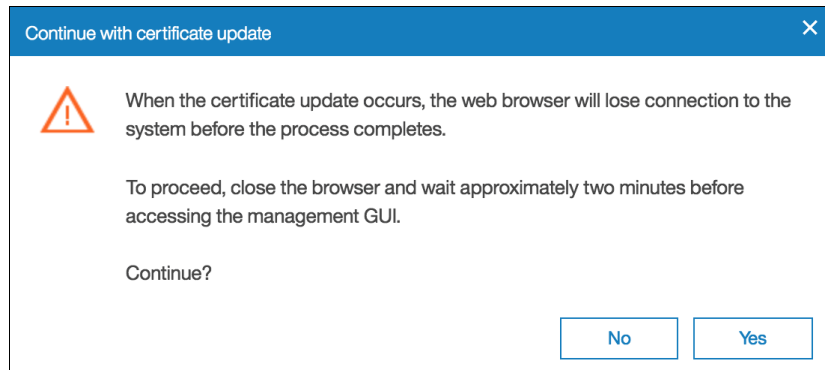

Figure 7-40 Certificate update warning
4. You are prompted to confirm the action, as shown in Figure 7-40. Click **Yes** to proceed. The self-signed certificate is generated immediately.